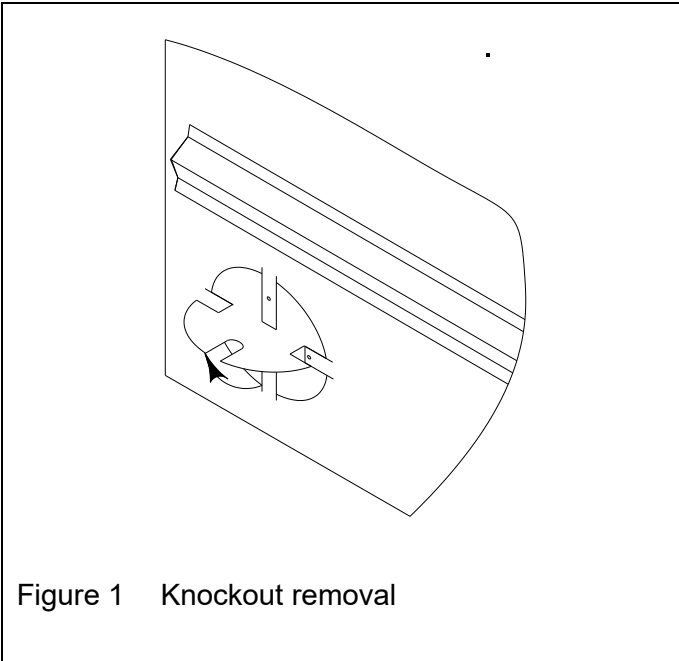

Figure 1 Knockout removal
3. The intake duct can be attached to either the left or the back of the Delta2 fireplace or to the left of the Focus 320, Onyx2, Opel2 and Opel3 fireplace. Start by removing the knockout on the correct side of the fireplace (see Figure 1). Bend out the four tabs to 90°.